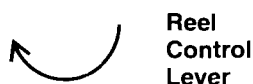

Figure 7. Overseeding Mode
5. Pull back on the reel control lever and push the clutch control forward to engage both the reel and drive clutches (see figure 7). Adjust the throttle to the operator's desired walking speed.